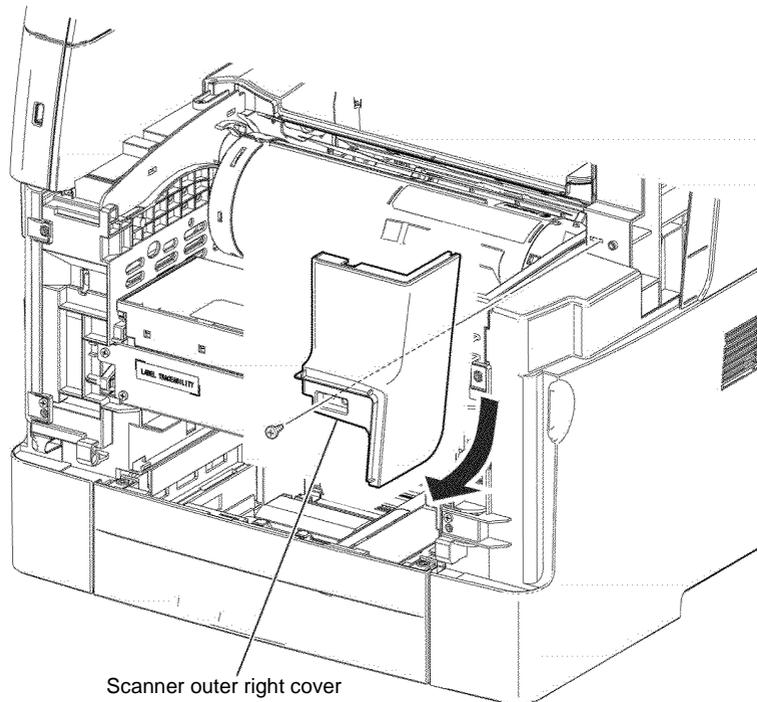

Figure 1 Scanner outer right cover removal
5. Remove one screw (silver, tapping, 8mm) that fixes the scanner outer right cover. Release one hook, then remove the scanner outer right cover, Figure 1.